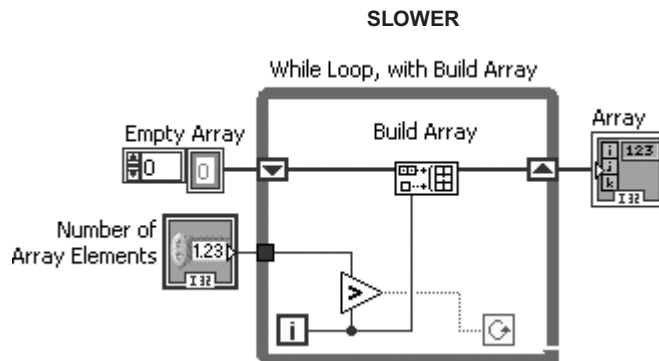
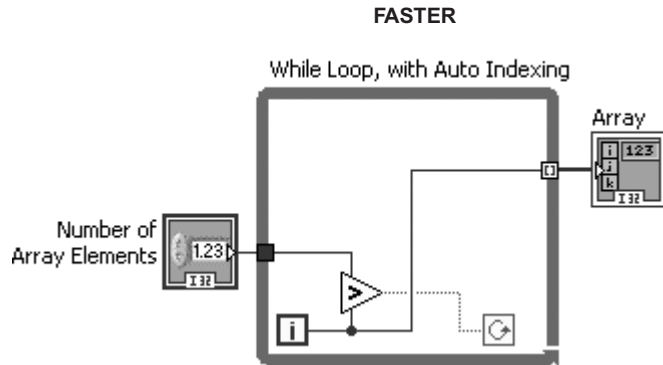

Figure 17.33
Figure 17.34
- Where possible, avoid using **Build Array** inside loops, thus avoiding repetitive calls to the Memory Manager. Every time you call the **Build Array** function, a new space is allocated in memory for the whole “new” array (see Figure 17.33). Use auto-indexing or **Replace Array Element** with a pre-sized array instead. When auto-indexing in a **While Loop**, LabVIEW allocates an increasingly bigger chunk of memory than it needs each time it runs out, reducing the number of memory manager calls (see Figure 17.34). In a **For Loop**, it can calculate and